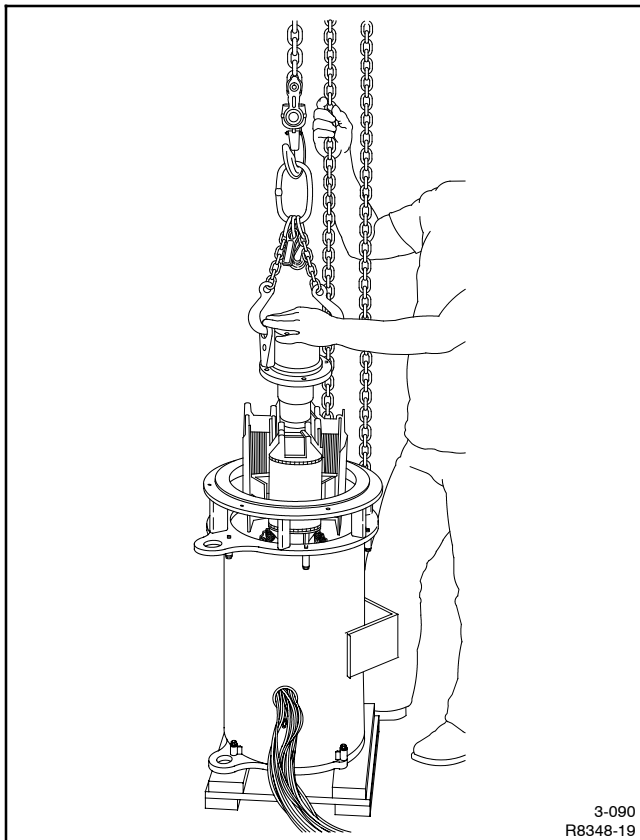

Figure 11-18 Installing Rotor
11. Suspend the rotor over the stator assembly. Secure the rotor leads (FN/FP) to prevent damage. Lower the rotor field into the stator. Be extremely careful while lowering the rotor to avoid damaging the field magnets, stator windings, or rotor laminations. See Figure 11-18.